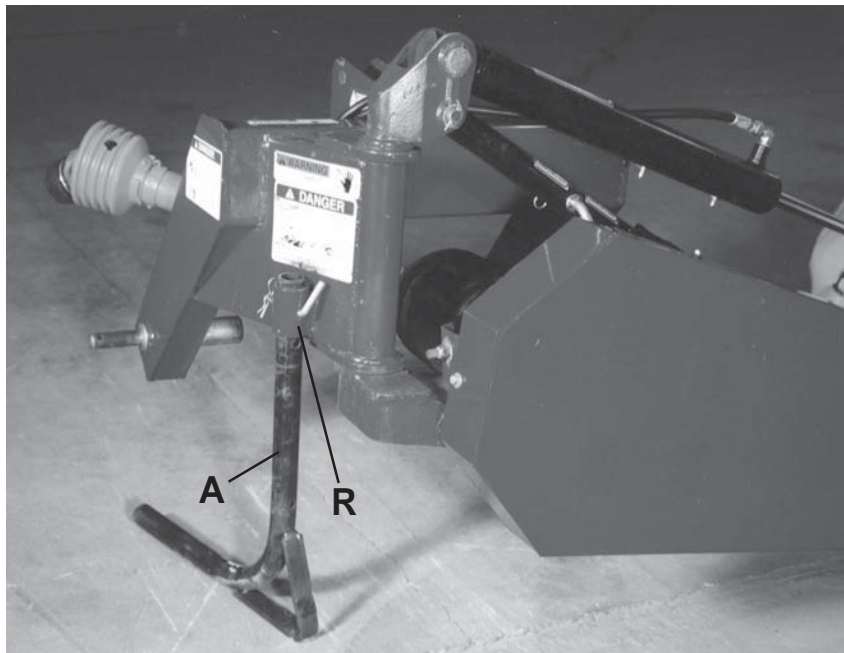

Figure 19
1. Make sure the stand tube is secured in the "up" position. If not, pull clip and Pin (R) and slide Stand Tube (A) up. Secure with Pin (R) and clip. (See **Figure 19**.)